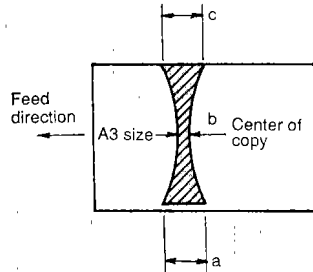

Figure 4-91
If the nip width is not as shown in Figure 4-91, turn the bolt to adjust it.
- 4) Measure the width of the area where toner is shiny; see Figure 4-91.